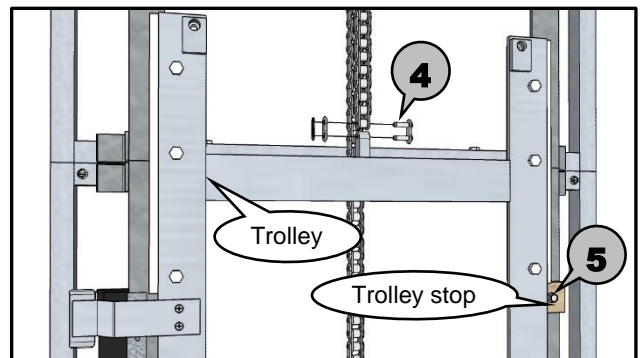

Figure 11
- 4** Use provided master link, attached near the top of the trolley with a plastic tie, to connect chain to top end of trolley. (see Figure 11)
- 5** Some machines will have a trolley stop screwed to the track for shipping and installation. Support the trolley to remove stop and carefully lower the trolley down the track and discard stop. (see Figure 11)
- 6** Some machines will have a trolley stop screwed to the track for shipping purposes, and it should be removed at this time. (see Page 14, Figure 11)